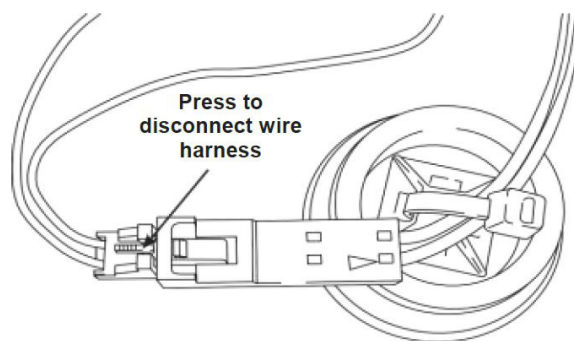

fig. 005 Air sensor wire harness
2. Disconnect the wire harness at the connector by pressing on the center tab. Pull the connectors apart. See fig. 005 "Air sensor wire harness".